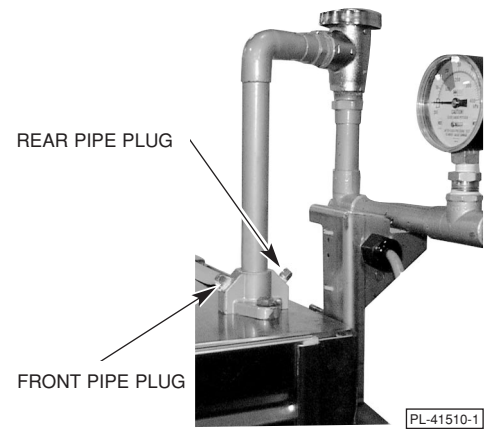
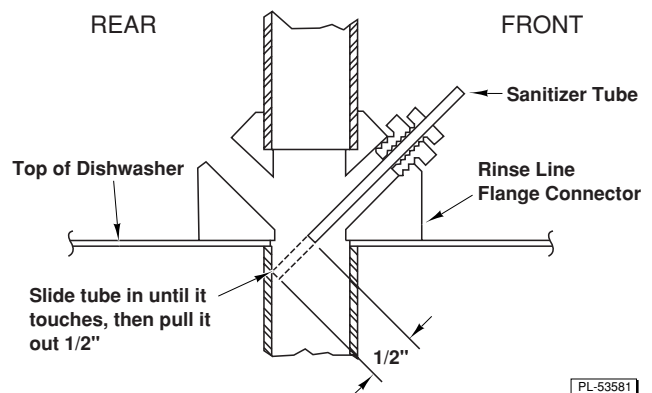

Fig. 8
Fig. 9
The rinse line flange connector on top of the dishwasher has two  $\frac{1}{8}$ " NPT pipe plugs (Fig. 8).
- Remove either front or rear plug (Fig. 8) for installation of the rinse aid dispenser tube unless a chemical sanitizer is to be installed. If installing a chemical sanitizer, use the rear hole for the rinse aid dispenser.
- Remove the front pipe plug (Fig. 8) for installation of the chemical sanitizer tube. To assure an unobstructed flow of sanitizer, locate the sanitizer tube in the center of water flow by drilling the sanitizer tube fitting so that its inside diameter is equal to the outside diameter of the tube. Slide the tube into the flange until it touches the opposite (rear) side and then pull it back out  $\frac{1}{2}$  inch (Fig. 9).